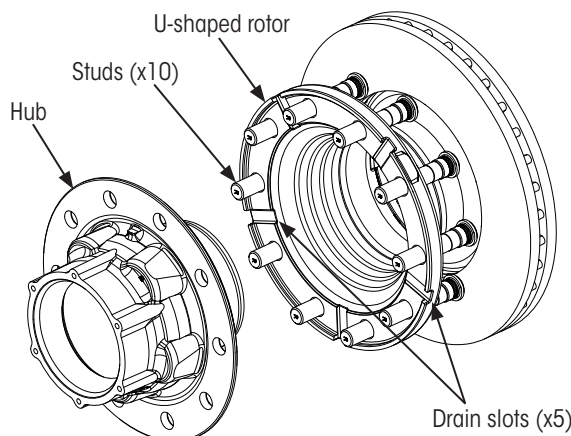
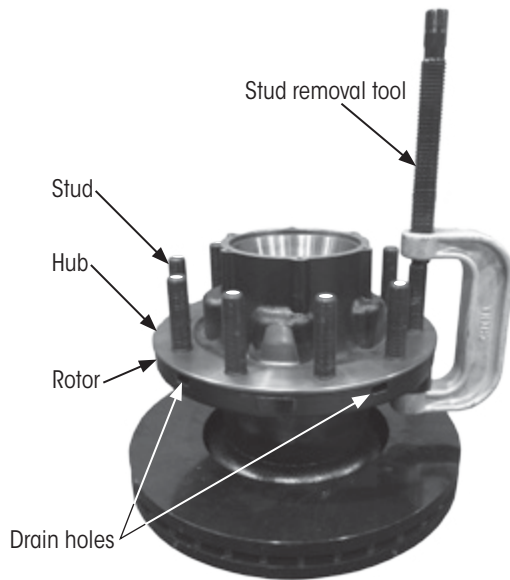
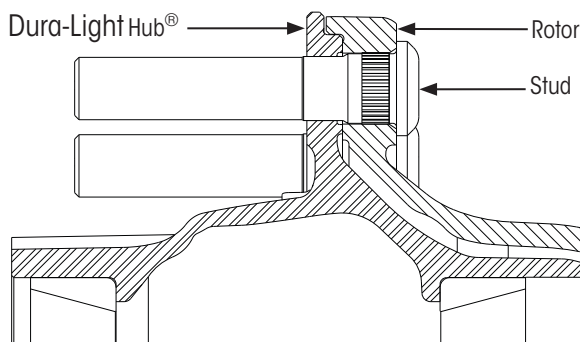
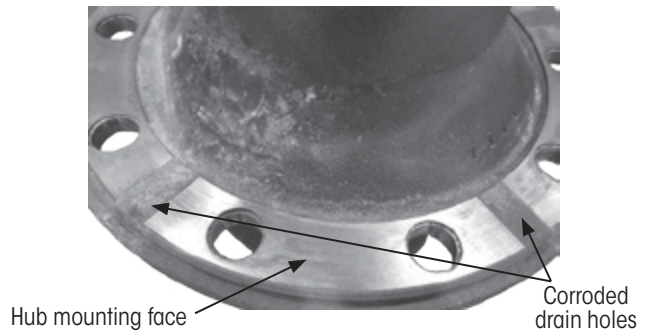

Figure 8: Hendrickson stud mounted hub & U-shaped rotor assembly
Figure 10: Pressing out old studs
Figure 11: Hub and rotor assembly
Figure 12: Drain hole corrosion on a used hub
This rotor to hub assembly is clamped together using studs which are press fit into the U-shaped rotor and hub (Figure 8 and Figure 11). These procedures apply to complete disassembly and reassembly when removed from the spindle.
- Using a hydraulic press or stud removal tool (Figure 10), **press out** each stud. Once all the studs have been removed, the hub and rotor can be separated.
As shown in Figure 11, the hub and rotor are held together by the studs. The knurled base of the stud is press fit into the rotor, while the non-knurled portion is press fit into the Dura-Light Hub®.
NOTICE: If installing a used hub onto a new rotor, corrosion may exist on the used hub pilots and where the drain holes were located (Figure 8 , Figure 10 and Figure 12). This corrosion needs to be thoroughly cleaned off with a wire brush or emery cloth before assembling the hub and rotor. It is also recommended to align the hub and rotor such that the drain slots on the rotor mounting face are located in the same position to the hub mounting face as in the original assembly (Figure 10).
NOTICE: Ensure the hub seats flush to the rotor mounting face and pilots (Figure 11). If not correctly seated, the hub and rotor connection may loosen and cause damage to one or more wheel-end components.